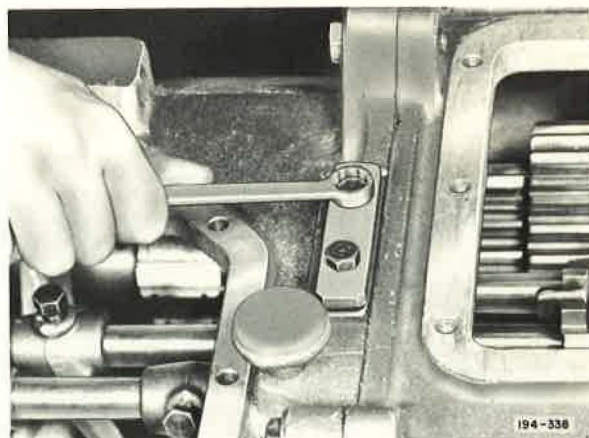

Figure 3. Removing Shifter Rail Poppet Ball Cover
3. Remove transmission case top opening covers. Cautiously remove shifter rail poppet ball covers (covers are spring-loaded), springs and balls. See Figure 3.